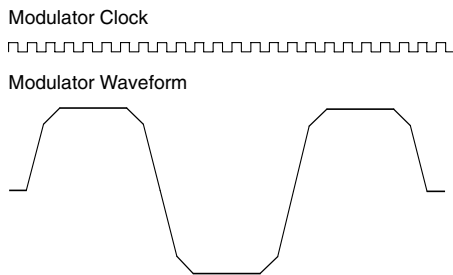
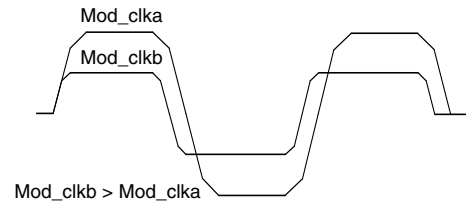

Figure 19. Modulator Waveform and Clock
Figure 20. Two Different Modulator Clock Setting
The modulator waveform is created by charging and discharging a capacitor. A modulator clock controls the timing, as shown in Figure19. For every rise-and fall edge, 4 clock periods are being used. The charging current during these 4 clock periods are not equal, this is to reduce the high frequency components in the waveform, which in turn will narrow the frequency spectrum.
where $f_{\text{MOD_CLK}}$ is the modulator clock shown in Figure 19, f_{XCO} is the crystal oscillator frequency Refclk_K is a 6 bit number and Mod_clkS is a 3 bit number. Mod_clkS can be set to a value between 0 and 7. The modulator clock frequency should be set according to the bit rate and shaping.
A $f_{\text{MOD_CLK}}$ of 8 times the bit rate (as in Figure 20) corresponds to a signal filtered in a gaussian filter with a Bandwidth (Period-product (BT)) of 1. When BT is increased, the waveform will be less filtered. Minimum BT is 1 (Mod_clk is 8 times the bitrate). Figure 20 shows two waveforms with BT=1 and BT=2, i.e. the Mod_clk is 8 and 16 times higher than the bit rate. When changing the BT factor, the charge-and discharge times will also be changed, and therefore the frequency deviation, as shown in Figure 19.